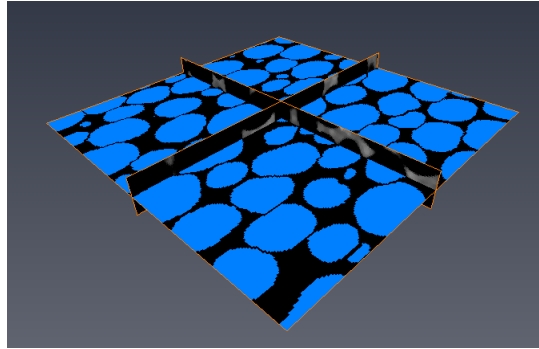

Figure 6.7: The particles are now separated
- Attach the first *Ortho Slice* to the new data. See the resulting display on Figure 6.7.